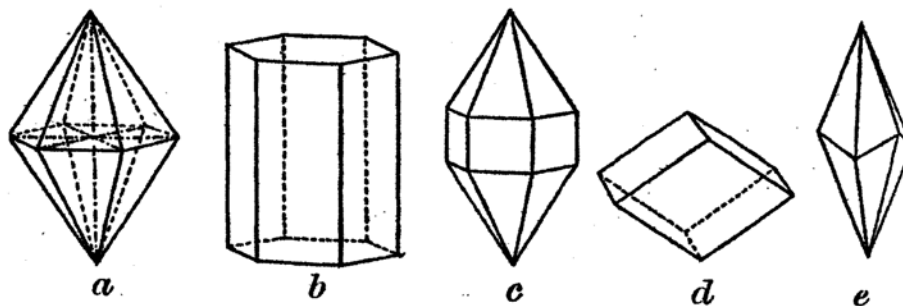

Figure 27 – Hexagonal System
6. There are four axes in the Hexagonal system, three horizontal ones, of equal length, which make angles of 60° with one another, and a vertical one which stands at right angles to the other three (Fig. 27).